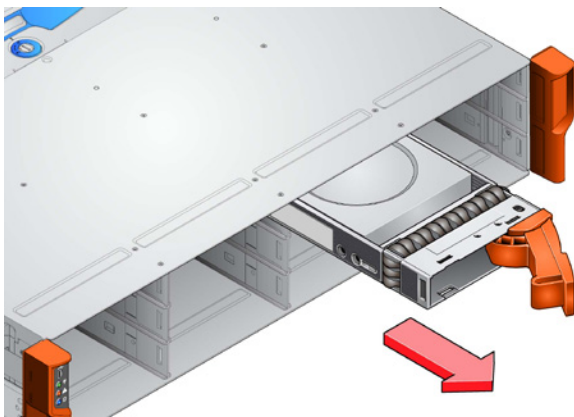

Fig. 39 - Removing a Drive Carrier Module (2)
3. Gently withdraw the drive carrier module approximately 1 inch (25mm), and wait 30 seconds (see Fig. 39).